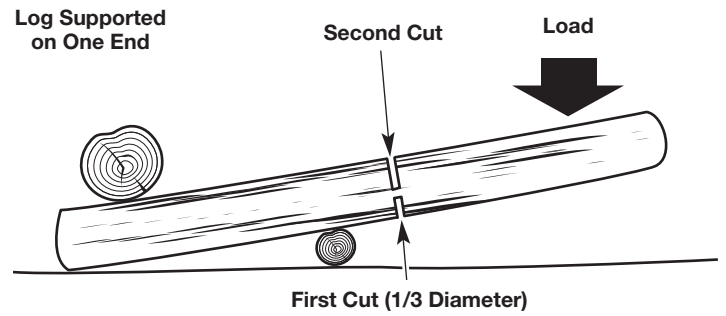

Fig. 19
- If the log is supported on one end (Fig. 19), make the first cut from below (underbucking). Refer to *Underbucking*.